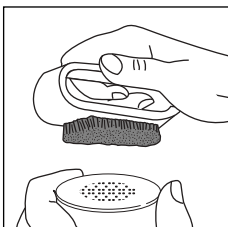
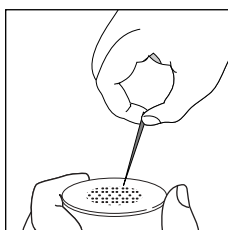

fig. 18
fig. 19
- Rinse all components and clean the metal filter thoroughly in hot water using a brush (fig. 18). Make sure the holes in the metal filter are not blocked. If necessary, clean with a pin (fig. 19).